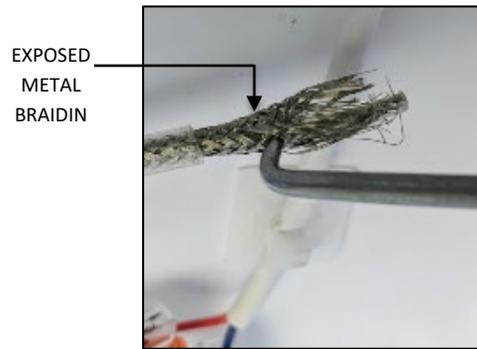
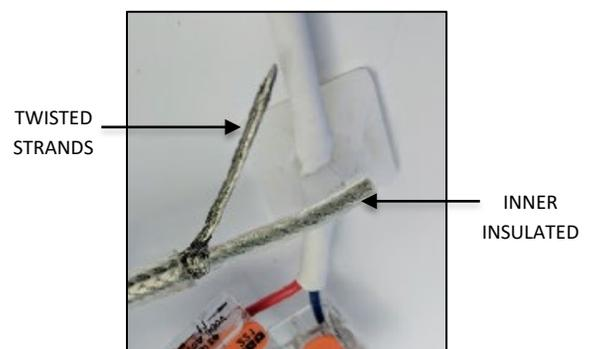

FIG. 17
FIG. 18
2. Using a small pointed object, begin unweaving the exposed metal braiding as shown in FIG. 17 below. Position the unweaved metal strands on one side of the inner insulated wire and twist the individual strands together as shown in FIG. 18 below.